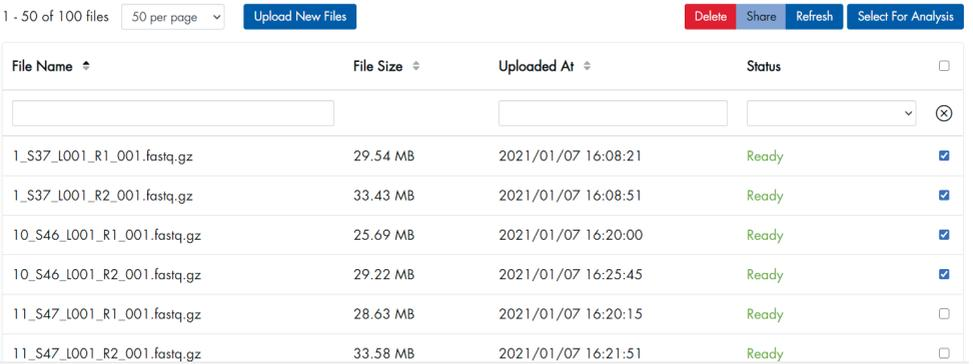

Figure 10. File selection for QIAseq Targeted DNA Pro data analysis pipeline.
5. Select the boxes next to the files that will be analyzed, and then click **Select For Analysis** (Figure 10).